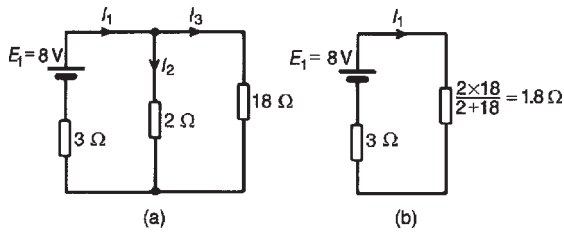
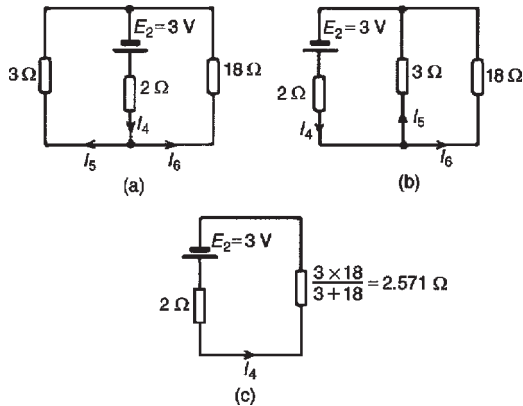
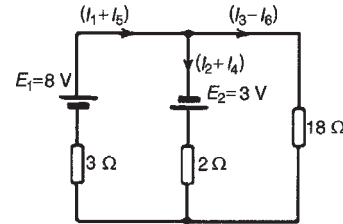

Figure 15.22
Figure 15.23
Figure 15.24
- Removing source E_2 gives the circuit of Fig. 15.22(a)
- The current directions are labelled as shown in Fig. 15.22(a), I_1 flowing from the positive terminal of E_1
From Fig. 15.22(b),
From Fig. 15.22(a),
3. Removing source E_1 gives the circuit of Fig. 15.23(a) (which is the same as Fig. 15.23(b))
4. The current directions are labelled as shown in Figs 15.23(a) and 15.23(b), I_4 flowing from the positive terminal of E_2
From Fig. 15.23(c),
From Fig. 15.23(b),
5. Superimposing Fig. 15.23(a) on to Fig. 15.22(a) gives the circuit in Fig. 15.24